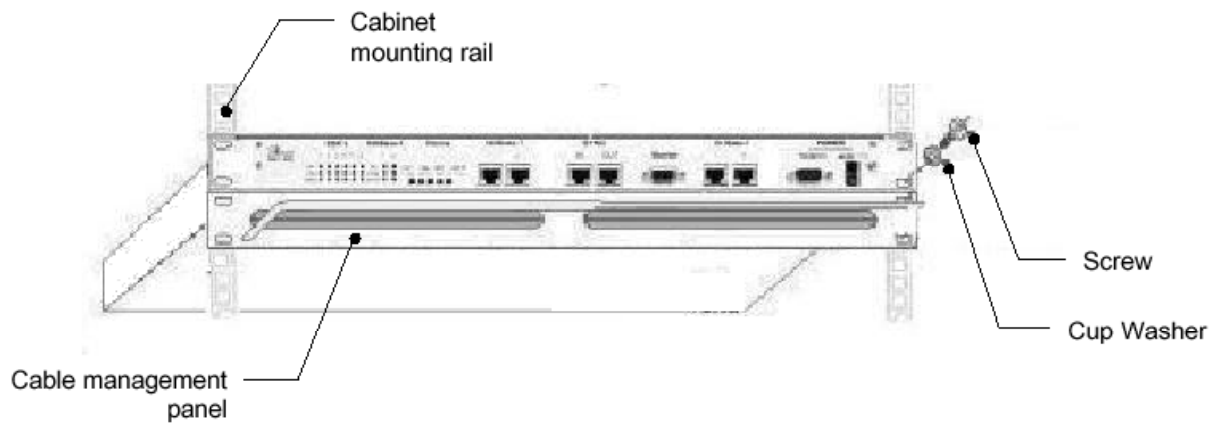

Figure 7-10: BSDU rack mounting
4. Insert the M5-mounting screws, with plastic washers, into the BSDU mounting bracket holes, on each side, as shown in Figure 7-10. In this way, the chassis is supported until you tighten the chassis screws.